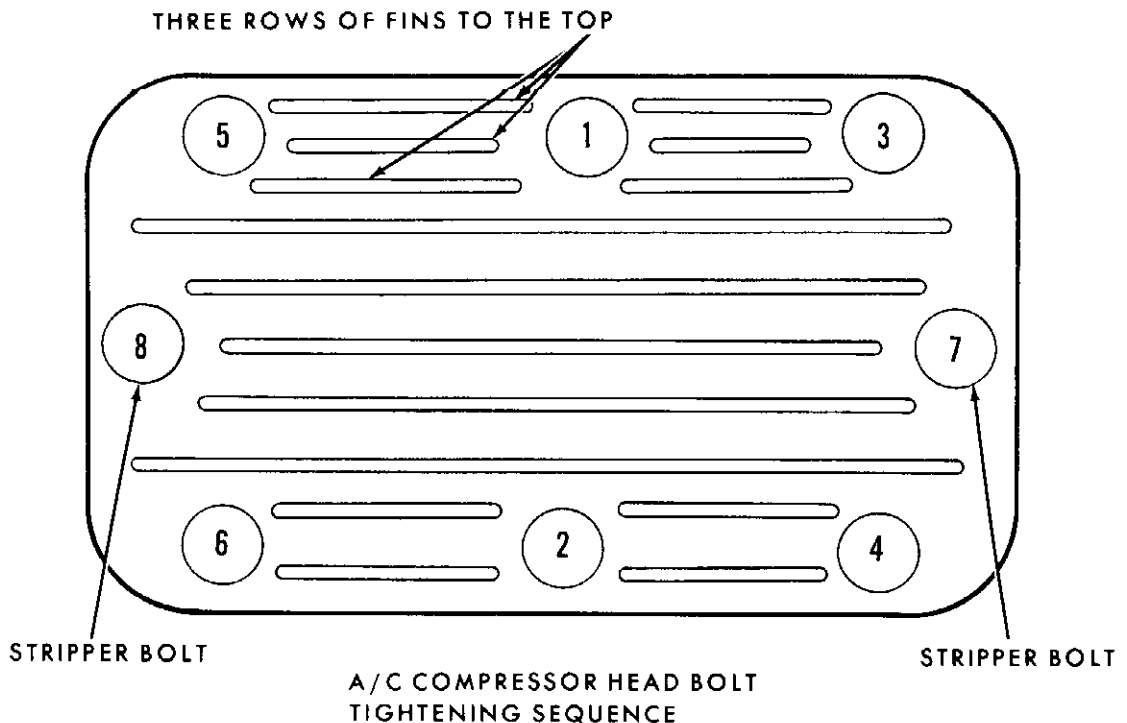

Fig. 8-3—Compressor Head Tightening Sequence—1957—4 Cylinder—(61LM-8810)
5. Torque the head bolts evenly to 15 lbs. ft. LINCOLN 4 CYLINDER COMPRESSOR: Torque the head bolts gradually in the sequence shown in figure 8-3 to 21 lbs. ft.